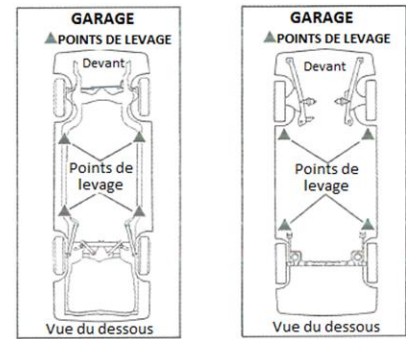

FIGURE 18 : DESSINS D'ÉTIQUETTES TYPIQUES
LES POINTS DE LEVAGE SOUS LE VÉHICULE SONT IDENTIFIABLES SOIT PAR DES TROUS, DES MOTIFS OU DES DÉPRESSIONS AYANT LA FORME D'UN TRIANGLE ÉQUILATÉRAL OU D'UNE PARTIE PROÉMINENTE TELLE QU'UN TAMPON DE LEVAGE EN FORME DE TRIANGLE. SE RÉFÉRER À *ALI/LP-GUIDE* POUR LA PÉRIODE DES 20 DERNIÈRES ANNÉES. VOIR **FIGURE 18**.
6. ALIGNER LES 4 MAINS DE LEVAGE VIS-À-VIS LES POINTS DE LEVAGE RECOMMANDÉS PAR LE MANUFACTURIER DU VÉHICULE. VOIR **FIGURE 18**.